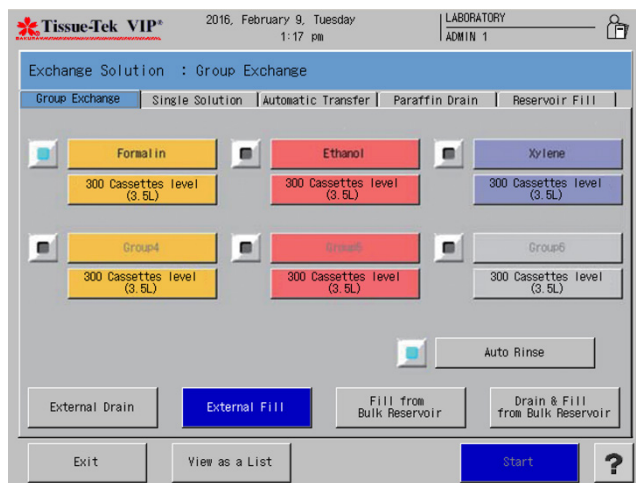

Figure 3-VVV
- The Exchange Solution screen displays (Figure 3-VVV).